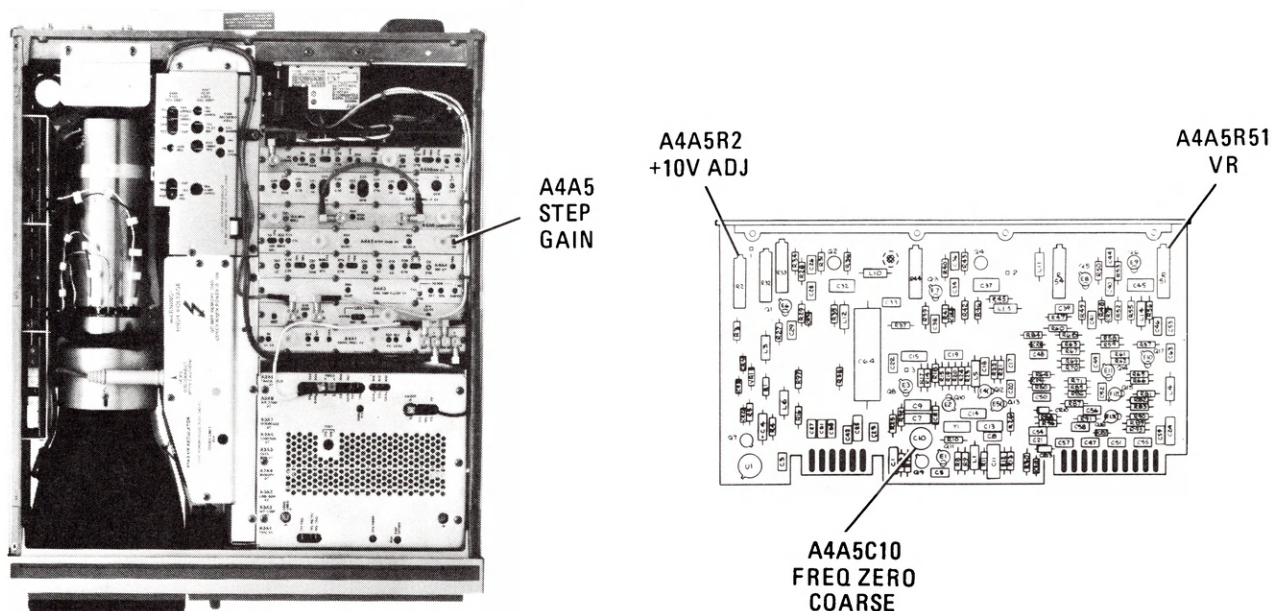

Figure 5-35. Location of .1-dB Gain Step, 18.4 MHz LO, and +10V Adjustments
31. Adjust A4A5R51 VR for MKR Δ level of $-.90$ dB. Refer to Figure 5-35 for location of adjustment.
35. Adjust A4A5C10 FREQ ZERO COARSE to peak signal trace on CRT. Refer to Figure 5-35 for location of adjustment.